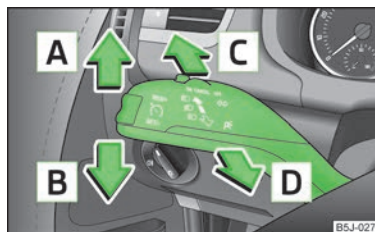

Fig. 25
- Pull the turn signal light lever » Fig. 25 on page 40 » page 40 upwards or downwards - the side light on the right or left side of the vehicle is switched.
- > Push the lever » Fig. 25 upwards or downwards .
- > Press the lever » Fig. 25 in the direction of arrow .
- > Pull the lever » Fig. 25 towards the steering wheel (spring-tensioned position) in the direction of arrow - the main beam and the warning light in the instrument cluster come on.